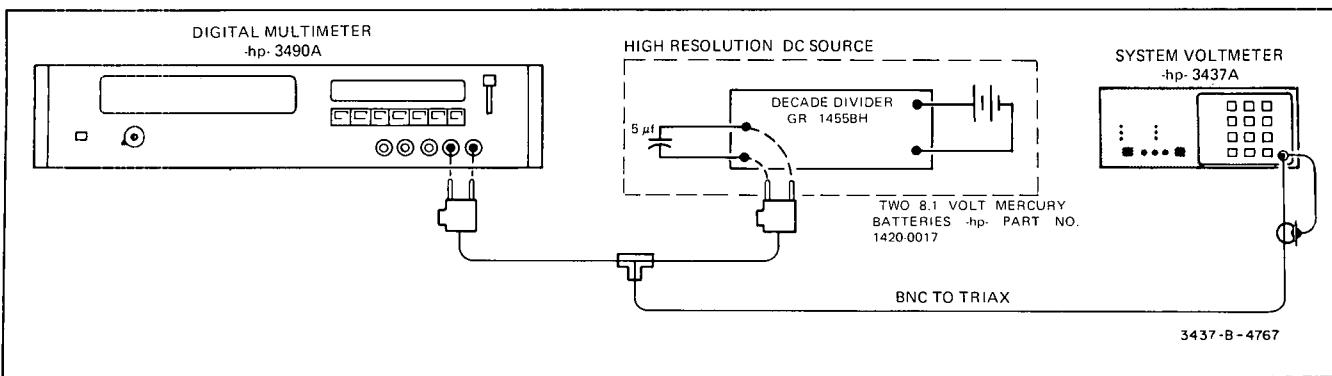

Figure 5-1. Static Accuracy Test Set-Up.
- Connect the equipment as illustrated in Figure 5-1.